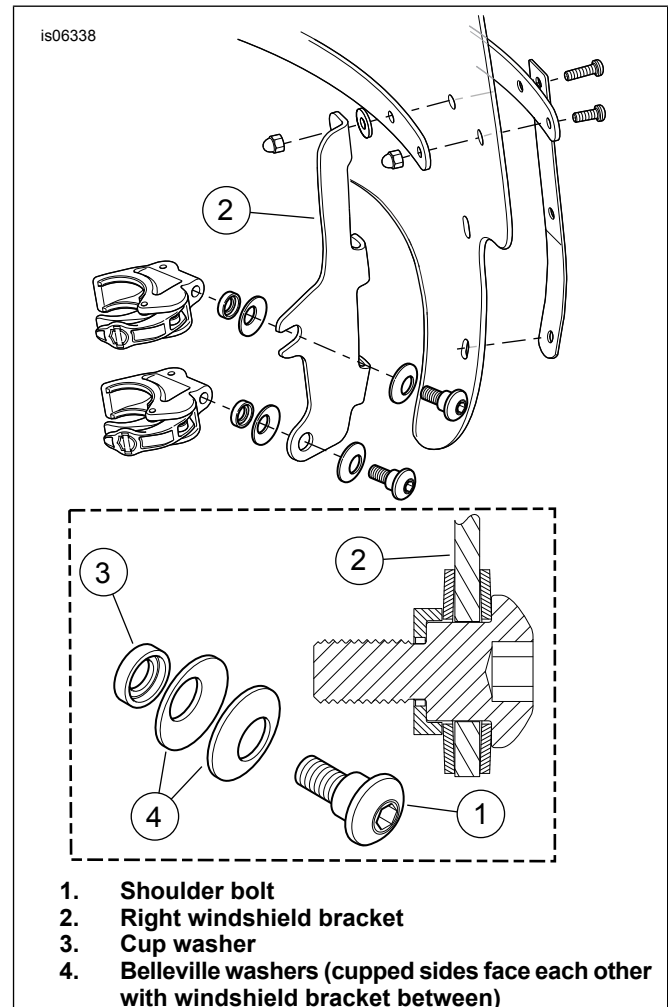

Figure 1. Windshield Mounting Clamps (Right Side Shown)
3. Loosely assemble the clamp assemblies to the windshield mount brackets in the sequence shown in Figure 1.